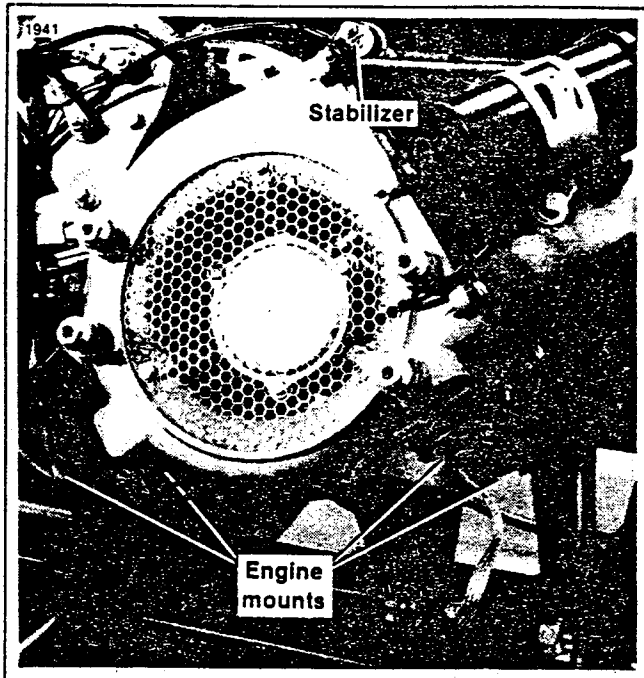

Figure 5-3. Engine Mounting
6. See Figure 5-3. Disconnect the stabilizer from the engine. Remove the engine mounting hardware. Remove the engine from the frame.
1. See Figure 5-3. Place the engine in the frame. Secure the engine to the mounts using the original hardware. Tighten the bolts and nuts to 30-35 ft-lbs (4.1-4.8 kgm) torque.